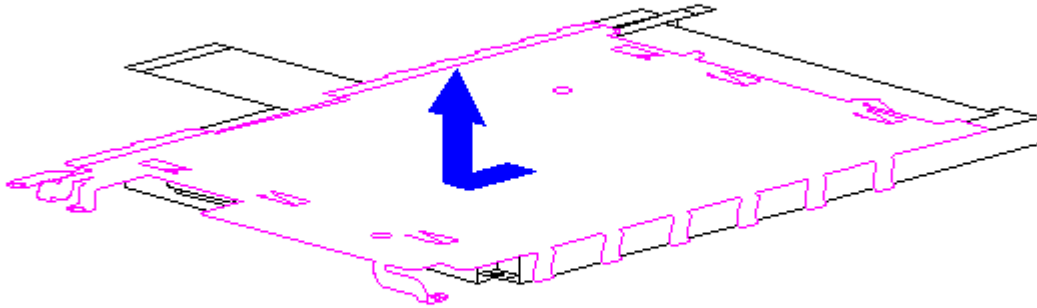

Figure 3-107. Removing the Display Shield from the CSTN (9.5 inch) Panel (Models 400 and 410)
15. Slide the display shield off the CSTN (9.5 inch) panel (Figure 3-107).